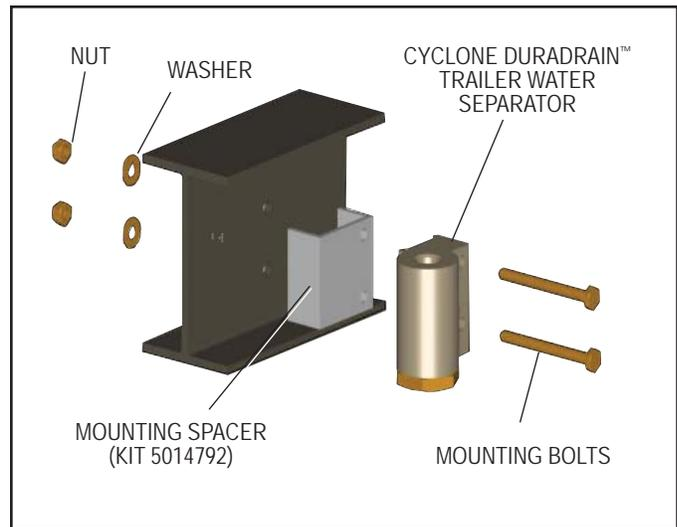

FIGURE 2 - INSTALLATION
2. Locate a mounting position on the trailer frame rail or cross-member. Using the Cyclone DuraDrain™ trailer water separator as a template, mark the location of the mounting holes. Drill two mounting holes. Consult with the trailer manufacturer prior to drilling any holes in the frame rail or cross-member. If a mounting spacer is used, install as shown in Figure 2. Secure using grade 2 or 5 mounting hardware.